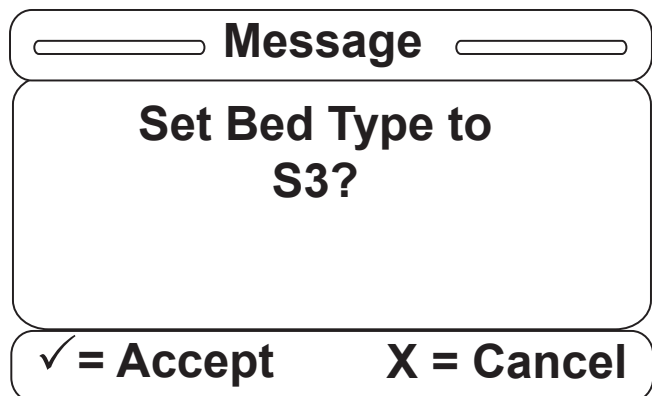

Figure S-3
3. Once a bed type has been selected from the list above, a confirmation screen such as that in Figure S-3 will be displayed, asking the user a question. (The confirmation screen text will vary based on the item selected. Figure S-3 indicates that the user chose the bed type S3.) Hit "Enter" on the footboard panel to confirm the bed type; hit "Exit" to cancel the operation.